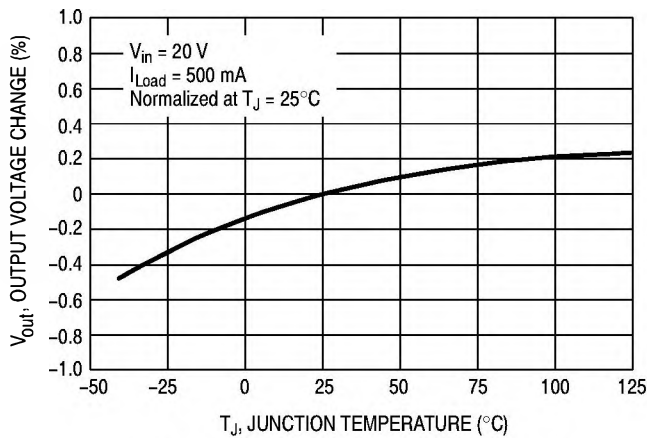

Figure 2. Normalized Output Voltage
1. Programming Output Voltage To select the right programming resistor R1 and R2 value (see Figure 2) use the following formula: $V_{out} = V_{ref} \left(1.0 + \frac{R2}{R1} \right) \quad \text{where } V_{ref} = 1.23 \text{ V}$ Resistor R1 can be between 1.0 k and 5.0 k Ω . (For best temperature coefficient and stability with time, use 1% metal film resistors). $R2 = R1 \left(\frac{V_{out}}{V_{ref}} - 1.0 \right)$	1. Programming Output Voltage (selecting R1 and R2) Select R1 and R2: $V_{out} = 1.23 \left(1.0 + \frac{R2}{R1} \right) \quad \text{Select } R1 = 1.8 \text{ k}\Omega$ $R2 = R1 \left(\frac{V_{out}}{V_{ref}} - 1.0 \right) = 1.8 \text{ k} \left(\frac{8.0 \text{ V}}{1.23 \text{ V}} - 1.0 \right)$ $R2 = 9.91 \text{ k}\Omega$, choose a 9.88 k metal film resistor.